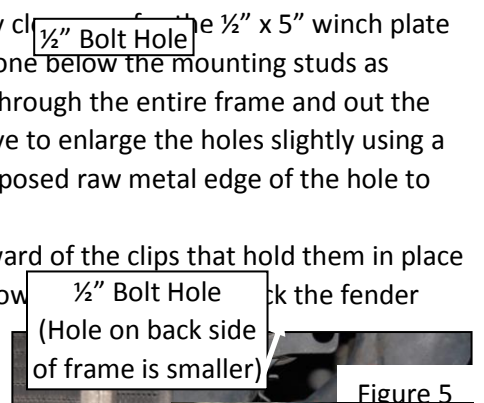

Figure 5
14. Before placing the bumper on the vehicle, check the frame holes to verify clearance for the $\frac{1}{2}$ " x 5" inch plate reinforcement hex bolts. There are 2 locations per side, one above, and one below the mounting studs as indicated in **Figure 5**. Using one of your $\frac{1}{2}$ " x 5" Hex Bolts, pass the bolt through the entire frame and out the back side at all 4 locations. If the bolt does not pass through, you will have to enlarge the holes slightly using a $\frac{1}{2}$ " drill bit. If you have to enlarge any holes, we suggest you paint the exposed raw metal edge of the hole to prevent rust development.
15. Next, trim or tuck the fender liners. To trim the liners, cut them just forward of the clips that hold them in place at the top, front of the fender. The clips and general trim location are shown in **Figure 5**. To tuck the fender liners, you can pull the loose end of the liner up to the support directly under the headlights and secure them using zip-ties through existing holes.